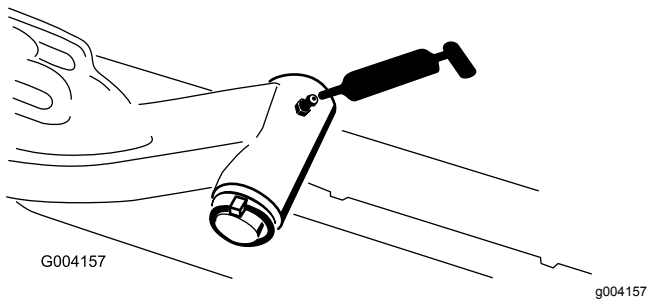

Figure 77
- Lift-arm-pivot shaft (1 each) (Figure 77)